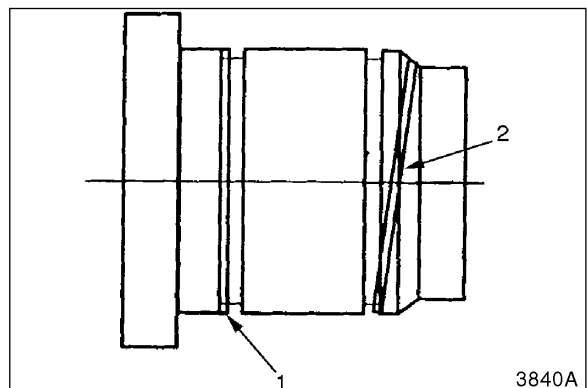
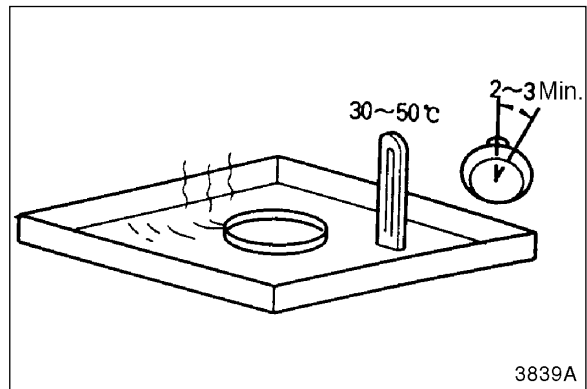

Figure 20
Figure 21
6. Use grease or an adhesive to hold split backup ring (1, Figure 20) in place. Install split backup ring (1) in groove closets to flange on cylinder head.
7. Place continuous backup ring in warm water. See Figure 21. Water temperature should be 30 - 50°C (86 - 122°F). Leave ring in water for 2 - 3 minutes. Slide continuous backup ring (2, Figure 20) over cylinder head and into its groove.